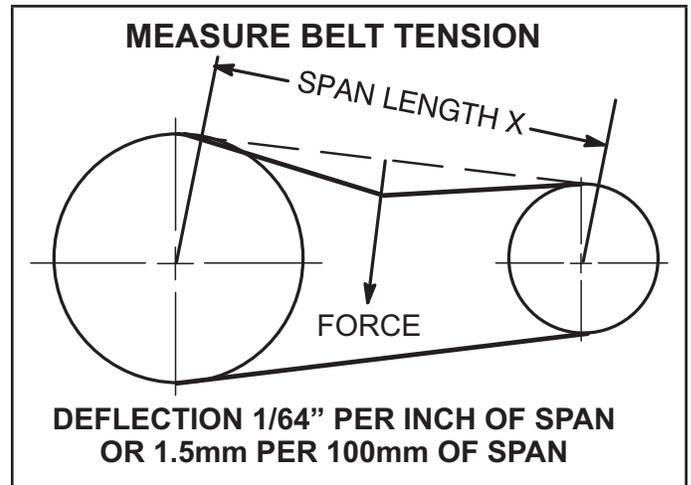

FIGURE 27
- 1 - Measure span length X. See FIGURE 27.
- 2 - Apply perpendicular force to center of span (X) with enough pressure to deflect belt 1/64" for every inch of span length or 1.5mm per 100mm of span length.